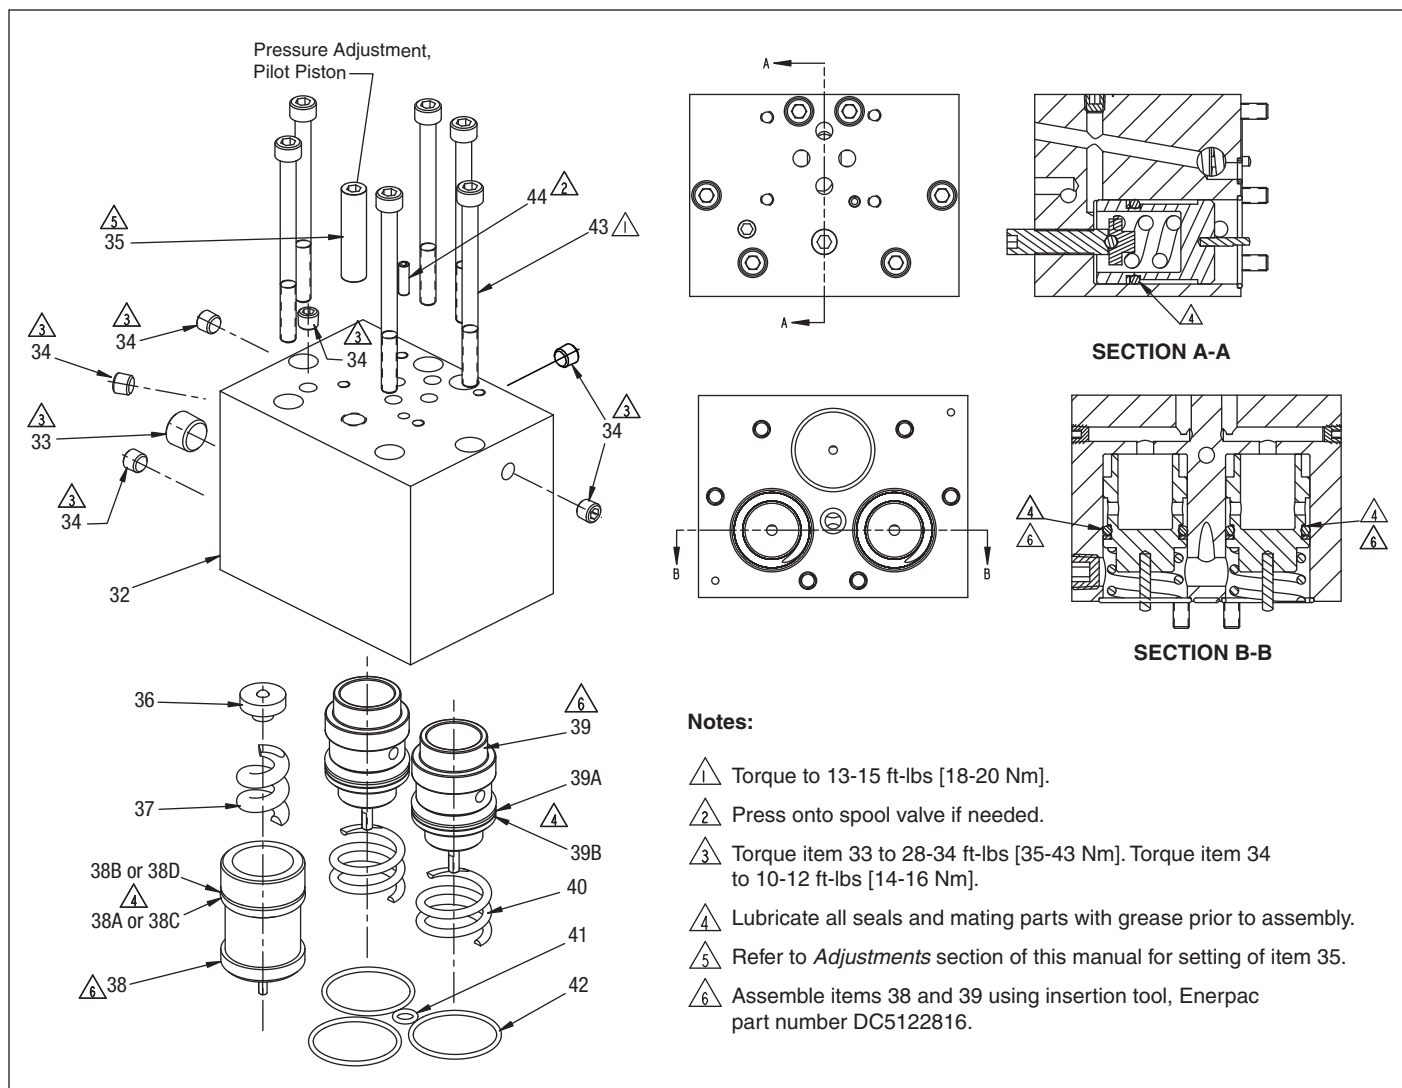

Figure 4, Valve Cover Assembly
Repair Parts List for Figure 4
- ⚠ Adjust Item 35 (see Fig. 4) to close at 1200-1400 psi [82-96 bar] followed by locking in place with Item 46 and Item 47.